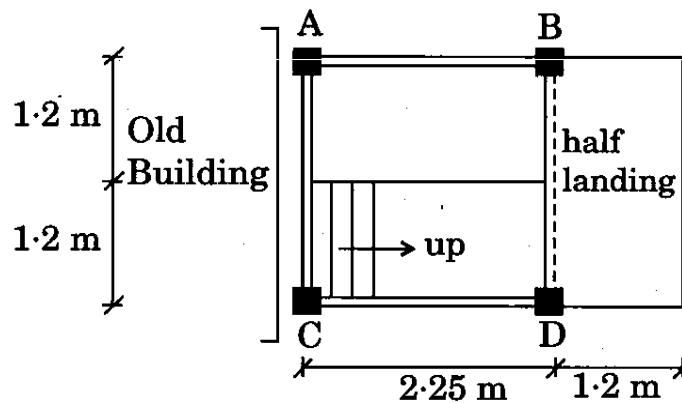

Figure 11
- (b) A separate two-flight staircase is to be constructed for an old residential house as shown in Figure 11. The floor-to-floor height of the building is 3 m. There are 10 nos. of risers of each 150 mm and treads of 250 mm. Four columns are located at A, B, C, D. The beams AB, CD and AC are located at floor level and the beam BD is located at half landing level. The thickness of waist slab and the landing is 150 mm. Live load = 3 kN/m2. Half landing slab is cantilevered from the beam BD. Neglect the line load along the edge of the half landing. Draw the bending moment diagram for the flight for design purpose. 20